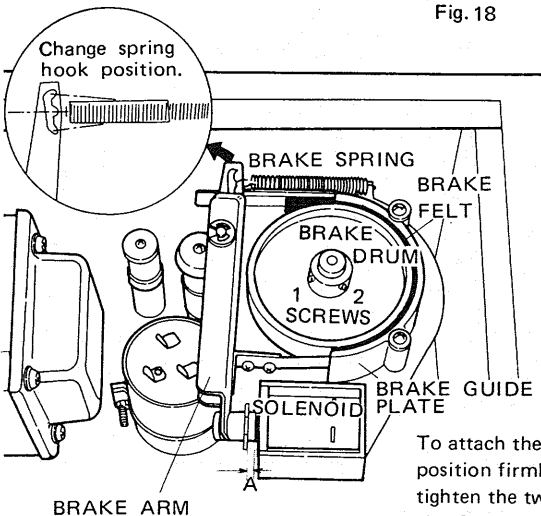

Fig. 19
- Is A in Fig. 19. 4mm when the solenoid is not operating?
#### ● Adjustment (Figs. 19, 20)